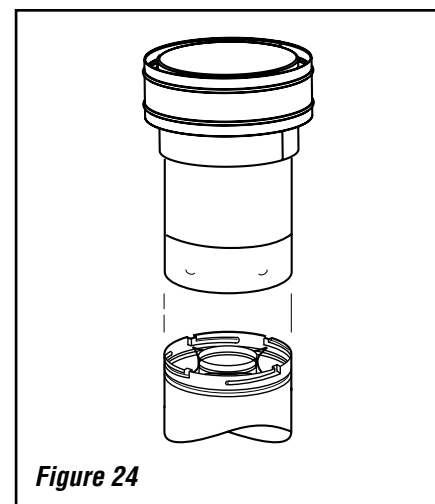

Figure 24
K. Install the vertical termination - The final step involves installation of the SV4.5CGV-1 Vertical Termination. Extend the vent sections to the height as shown in the "Vertical vent termination section" in **Figure 5 on Page 6**. The SV4.5CGV-1 Vertical Termination (**Figure 24**) can be installed in the exact same fashion as any other **Secure Vent™** section. Align the termination over the end of the previously installed section, adjusting the radial alignment until the four locking dimples of the termination are aligned with the inlets of the four incline channels of the last vent section. Push the termination down until it fully engages, then twist the termination clockwise running the dimples down and along the incline channels until they are seated at the end of the channels.